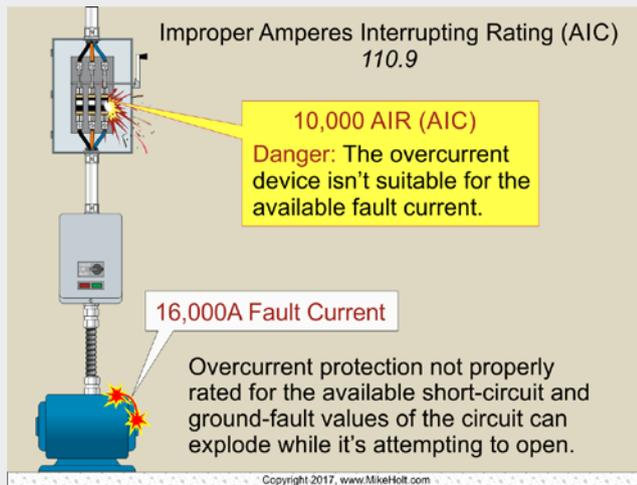

Figure 110-6
**DANGER:** Extremely high values of current flow (caused by short circuits or ground faults) produce tremendously destructive thermal and magnetic forces. An overcurrent protection device not rated to interrupt the current at the available fault values at its listed voltage rating can explode while attempting to open the circuit overcurrent protection device from a short circuit or ground fault, which can cause serious injury or death, as well as property damage. Figure 110-6